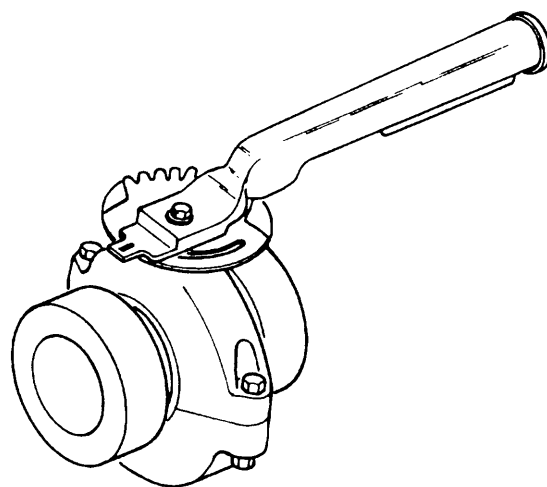

Figure 1-9. Butterfly Valve.
**1-14. BUTTERFLY VALVE.** (Refer to Figure 1-9.)